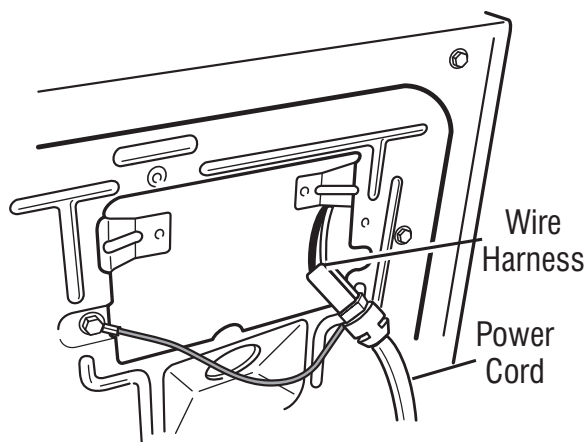
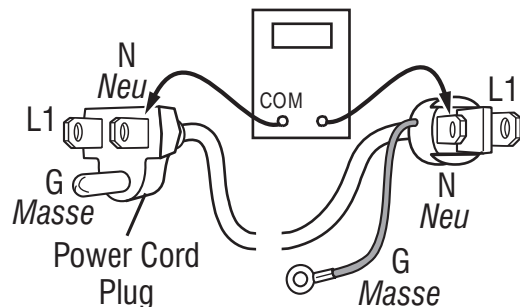

Figure 4 - Power cord-to-wire harness connection for gas dryer.
Figure 5 - Power cord terminals, gas dryer.
3. Check that the power cord is firmly connected to the dryer's wire harness. See figure 4.
5. With an ohmmeter, check for continuity between the neutral (N) terminal of the plug and J8-3 (white wire) on the ACU. The left-hand side of figure 5 shows the position of the neutral terminal (N) on the power cord plug. Also see figure 1, page 3-9.
- If there is no continuity, disconnect the white wire of the main harness from the power cord at the location illustrated in figure 4. Test the continuity of the power cord neutral wire as illustrated in figure 5. If an open circuit is found, replace the power cord. Otherwise, go to step 6.
- If there is no continuity, check the continuity of the power cord in a similar way to that illustrated in figure 5, but for power cord's L1 wire.